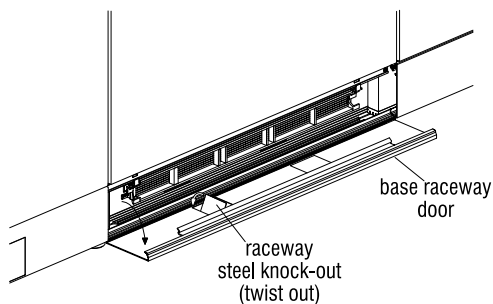

Figure 42
2. Remove the base filler plate by opening the raceway door and unsnapping it from inside the raceway. **Figure 42.**